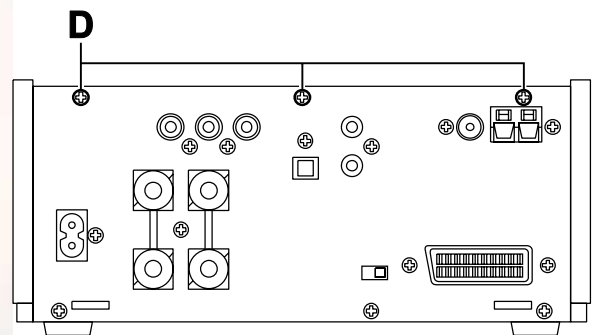

Fig.3
- From the back side of the main body, remove the three screws **D** attaching the bridge C. (See Fig.3.)